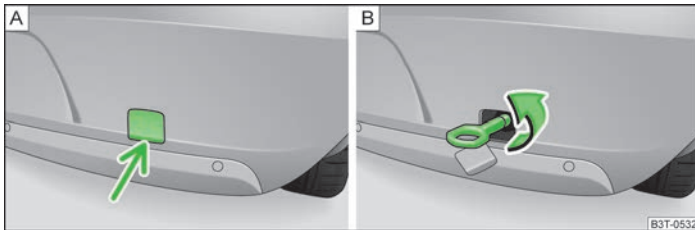

Fig. 182 Rear bumper: Removing the cap/installing the towing eye
- Press onto the bottom part of the cap in the rear bumper » Fig. 182 - [A] and remove it.
- Screw in the towing eye by turning to the left up to the stop » Fig. 182 - [B] and tighten as much as possible. For tightening purposes, we recommend, for example, using the wheel wrench, towing eye from another vehicle or a similar object that can be pushed through the eye.